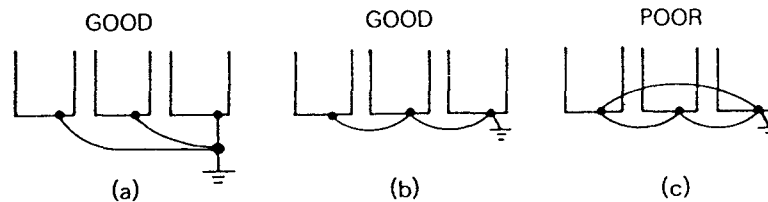

Figure 4. Grounding of Three Units
- Where several units are used side by side, all units should be grounded directly to the ground poles. However, it is permissible to connect all the ground terminals in parallel and ground only one unit to the ground pole (see Figure 4). DO NOT FORM A LOOP WITH THE GROUND LEADS.